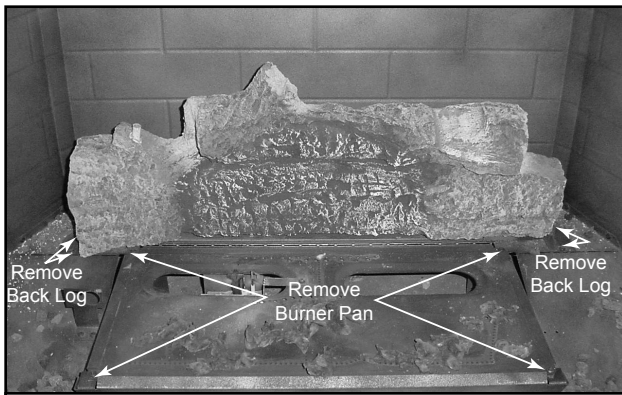

Figure 1.3 Remove Rear Log
- Remove four screws securing the rear log (Figure 1.3). Lift rear log and remove from firebox.
- Remove the main burner by removing four screws (Figure 1.3), one at each corner. Slide the burner to the left and lift out. Set aside.